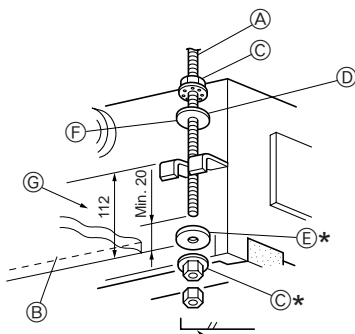

Fig. 2-7
1. Thread washers ① ② (supplied) and their nuts (procured locally) onto the suspension bolt in advance. (Fig. 2-7)
- \* Do this in the following order (from the top): nut, insulated washer ②, washer without insulation ①, two nuts.
- \* Position insulated washer ② with the insulated surface pointing down, as in the figure.
2. Lift the unit into place, aligned properly with the suspension bolt. Pass the bracket between washers ① and ②, which are already in place, and secure it. Do the same in all four places.
- Ⓓ Washer ② (with insulation)
- Ⓔ Washer ①